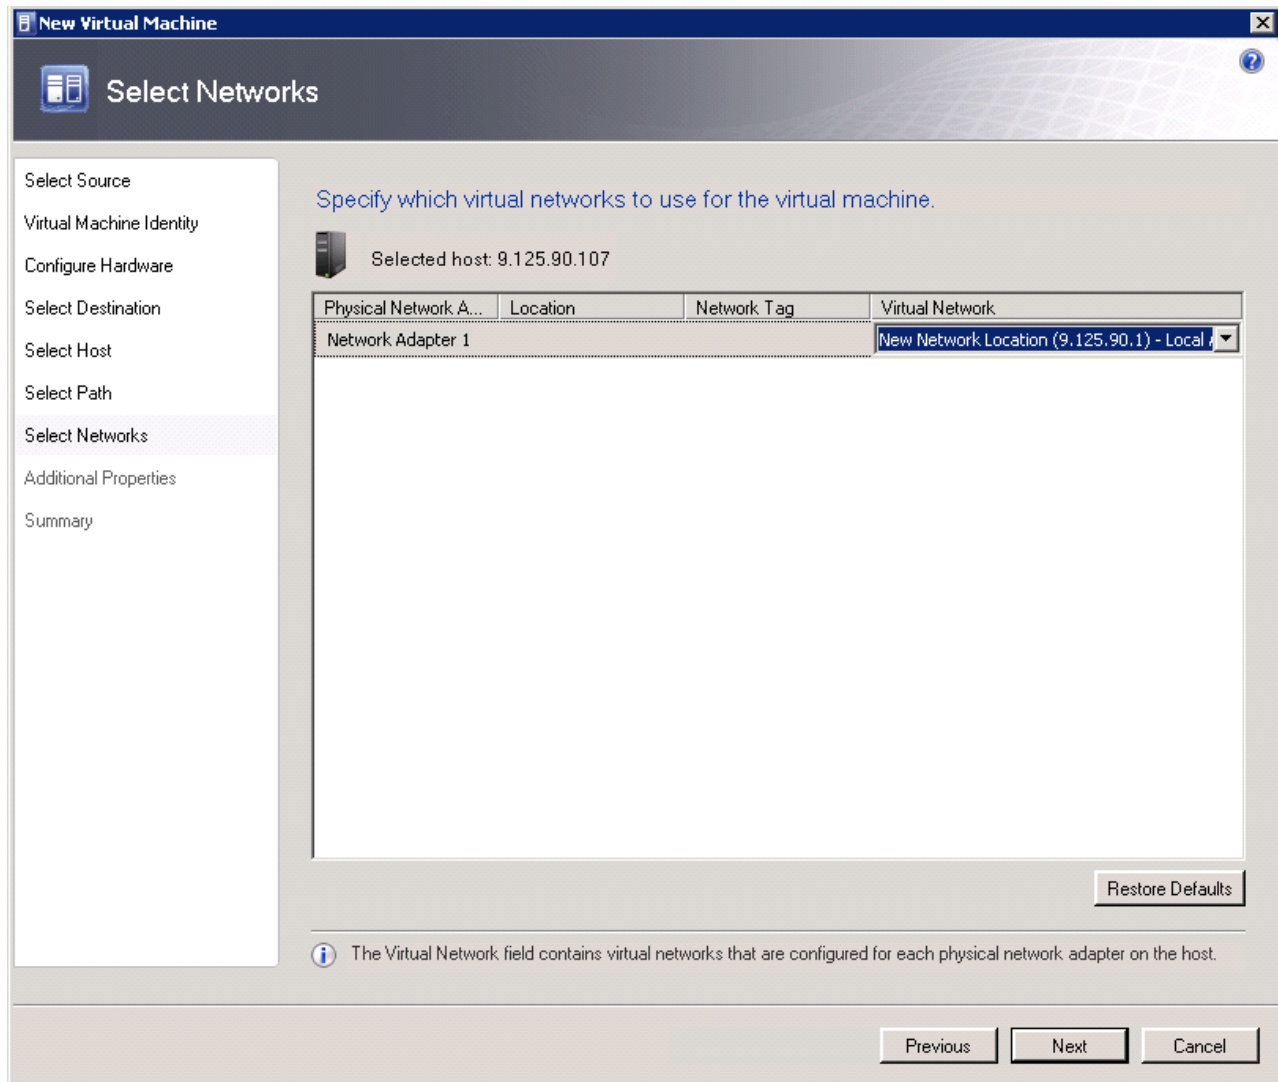

Figure 3-19 New Virtual Machine wizard: Select Networks
15. In the Select Networks window, configure the network for the virtual machine as shown in Figure 3-19. Click **Next**.